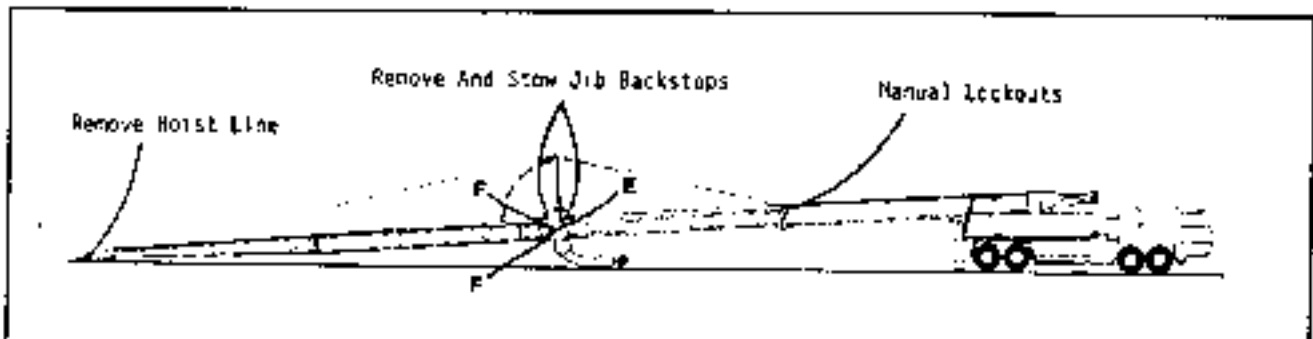

Fig. 4-14
Step 1: Fully retract the boom middle section. Boom down until the jib nears ground. Swing back the rope guard on the head sheave and pin in place. Remove the jib hoist rope and move it out of the way. Carefully boom down until the jib head sheave rests on ground and the pendants become slack. Remove and stow the jib backstops. Boom up or down slightly to align lugs at "F" and install the four pins and keepers. Pins at "E" need not be removed. Refer to Fig. 4-14.